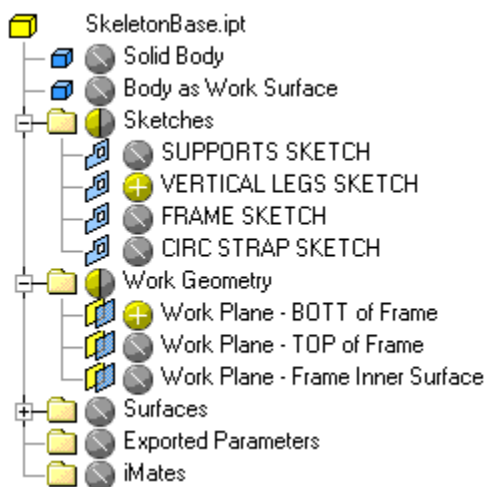

Figure 9: Derived geometry for frame leg.
9. Eliminate Surfaces and Exported Parameters from the derived component. The Derived Part dialog box should match the one shown in Figure 9.